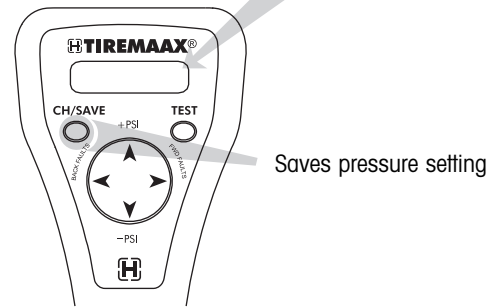

Figure 35. Saving the new target pressure setting
- Press the CH/SAVE (change/save) button to save the new target pressure setting (figure 35).